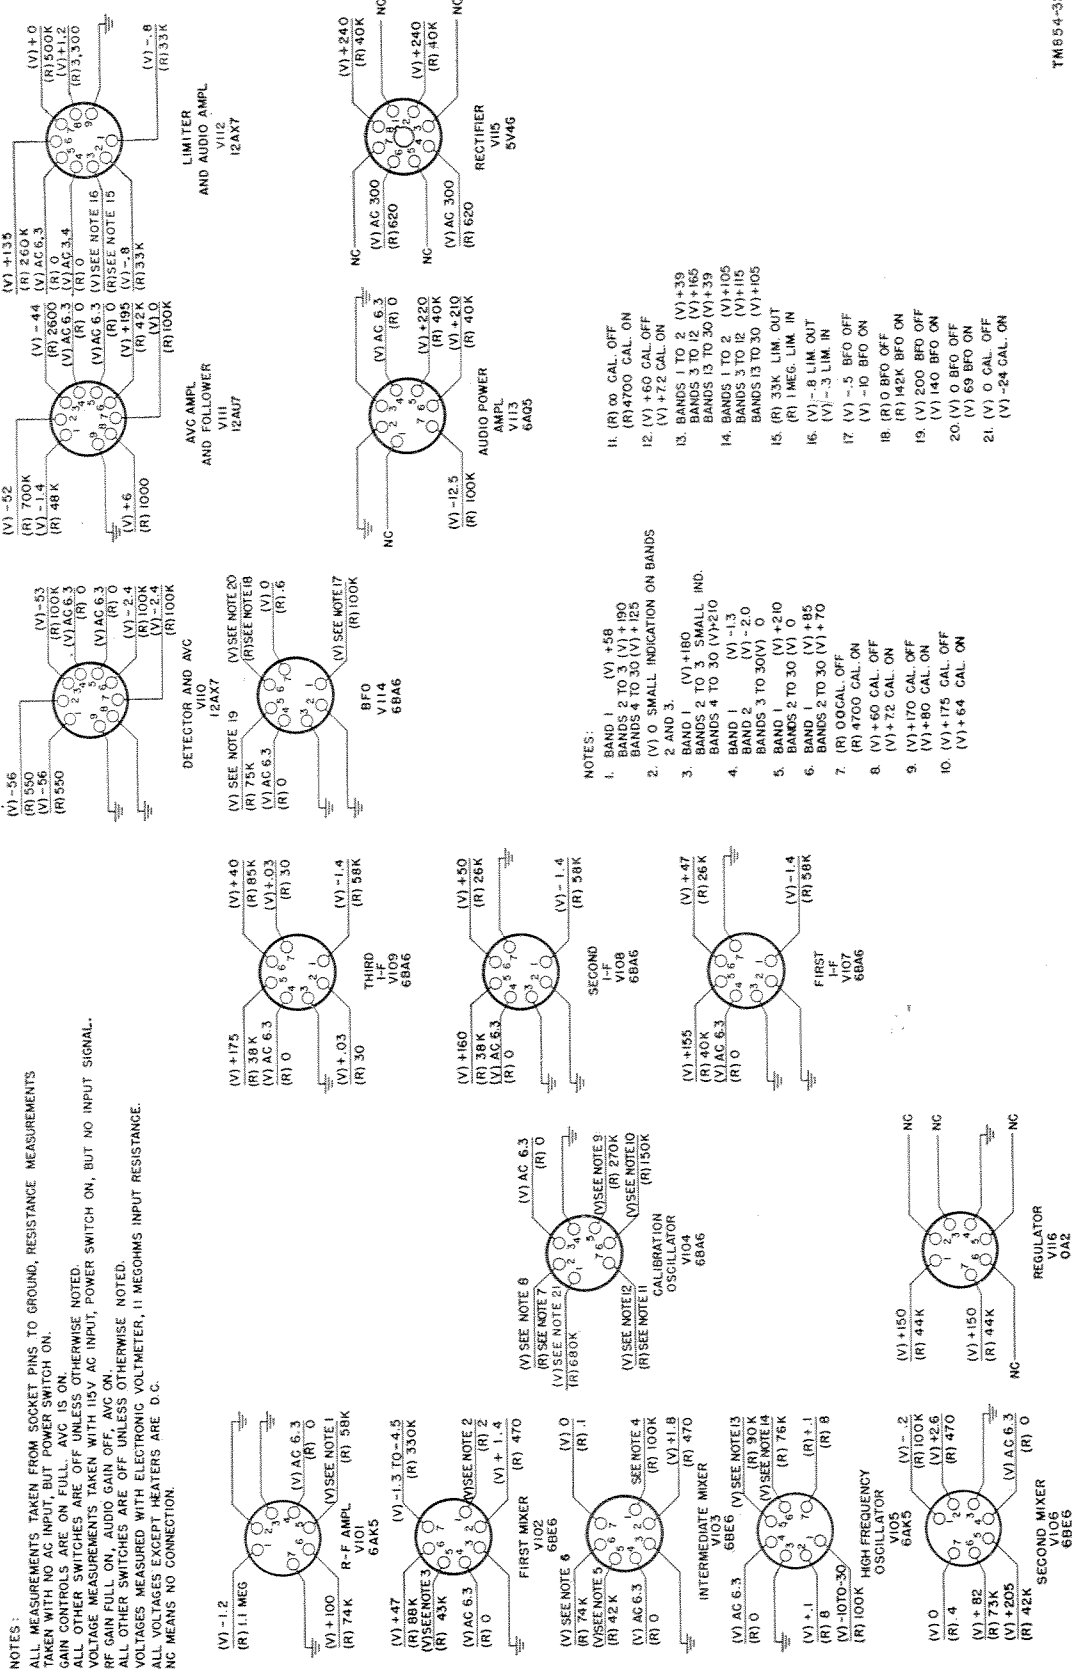

Figure 32. Tube voltage and resistance chart.
c. Refer to tube socket resistance and voltage chart (fig. 32). With power removed, check
can be used to supplement this procedure and to determine the defective stage. Once the trouble is localized to a stage or circuit, a tube check and voltage and resistance measurement of this stage or circuit should ordinarily be sufficient to isolate the defective part. Normal voltage and resistance measurements are given in figure 32.
h. When trouble is localized to a given stage, first test the tube, then the voltage, and finally the resistance at the tube socket of that stage against figure 32.